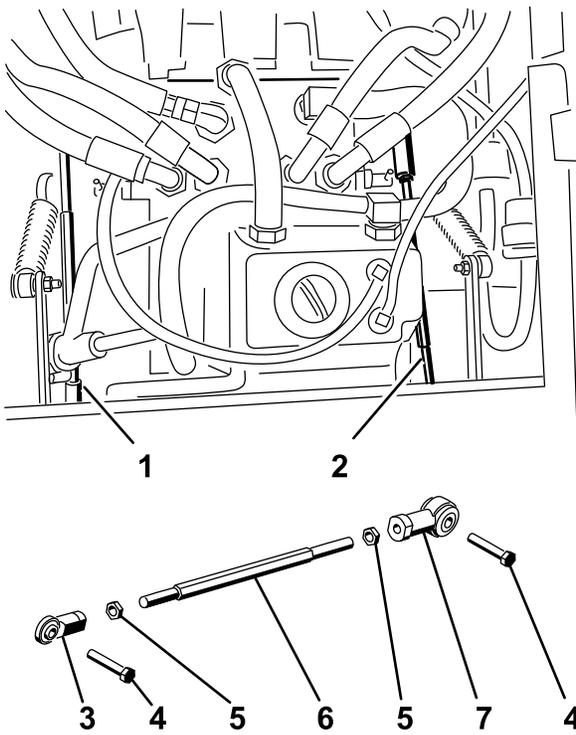

Figure 56
10. Tighten the jam nuts at the ball joints (Figure 56).